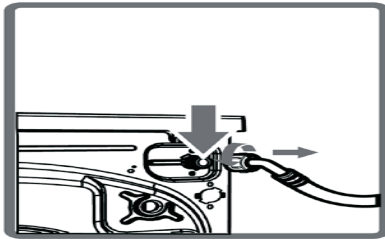

Fig 7
**1:** Connect the water inlet hose, the angled connection attaches to the water inlet on the back of the washing machine. (Fig 7)